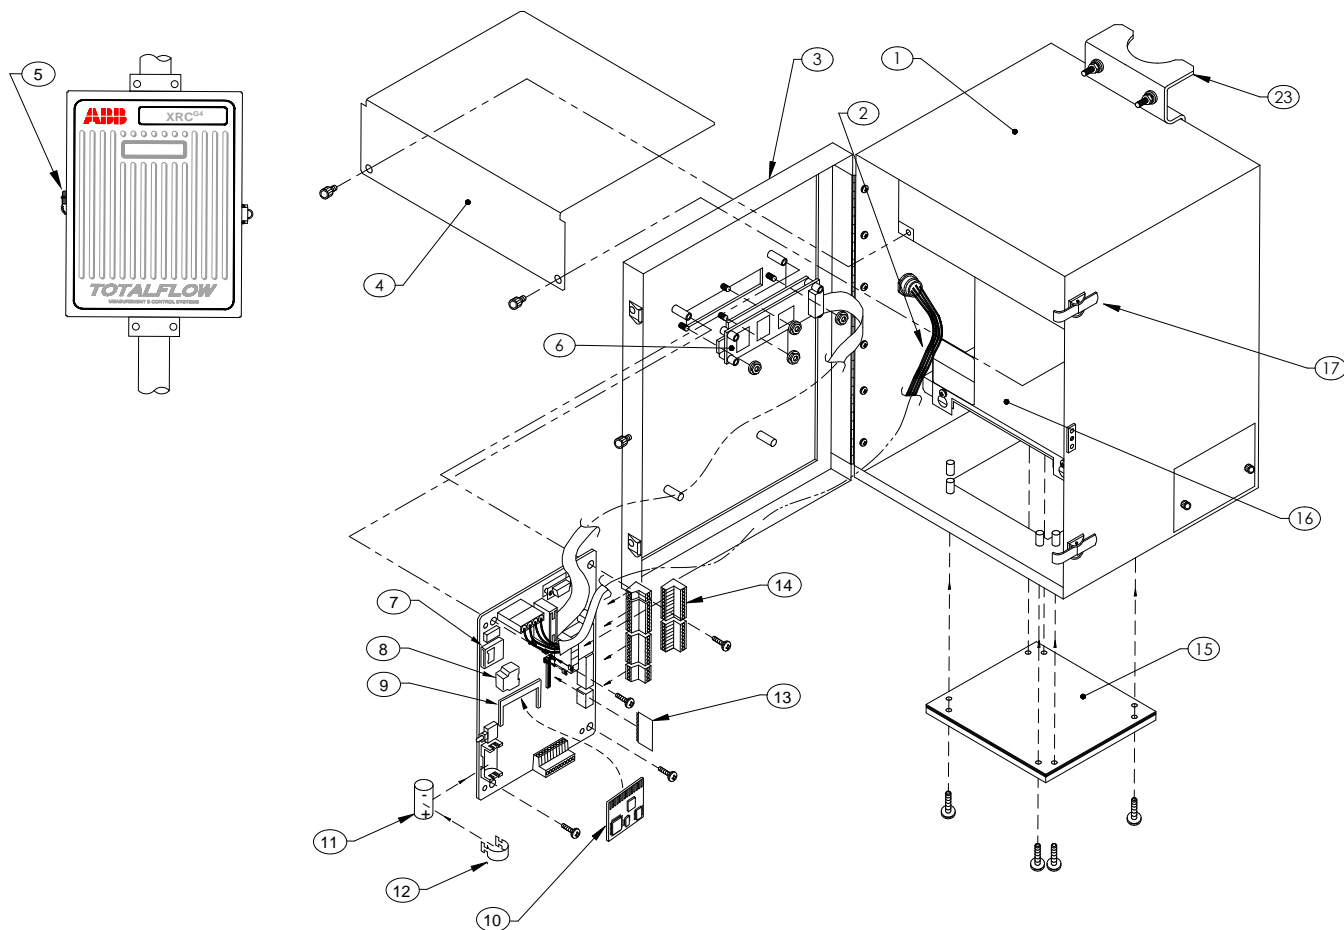
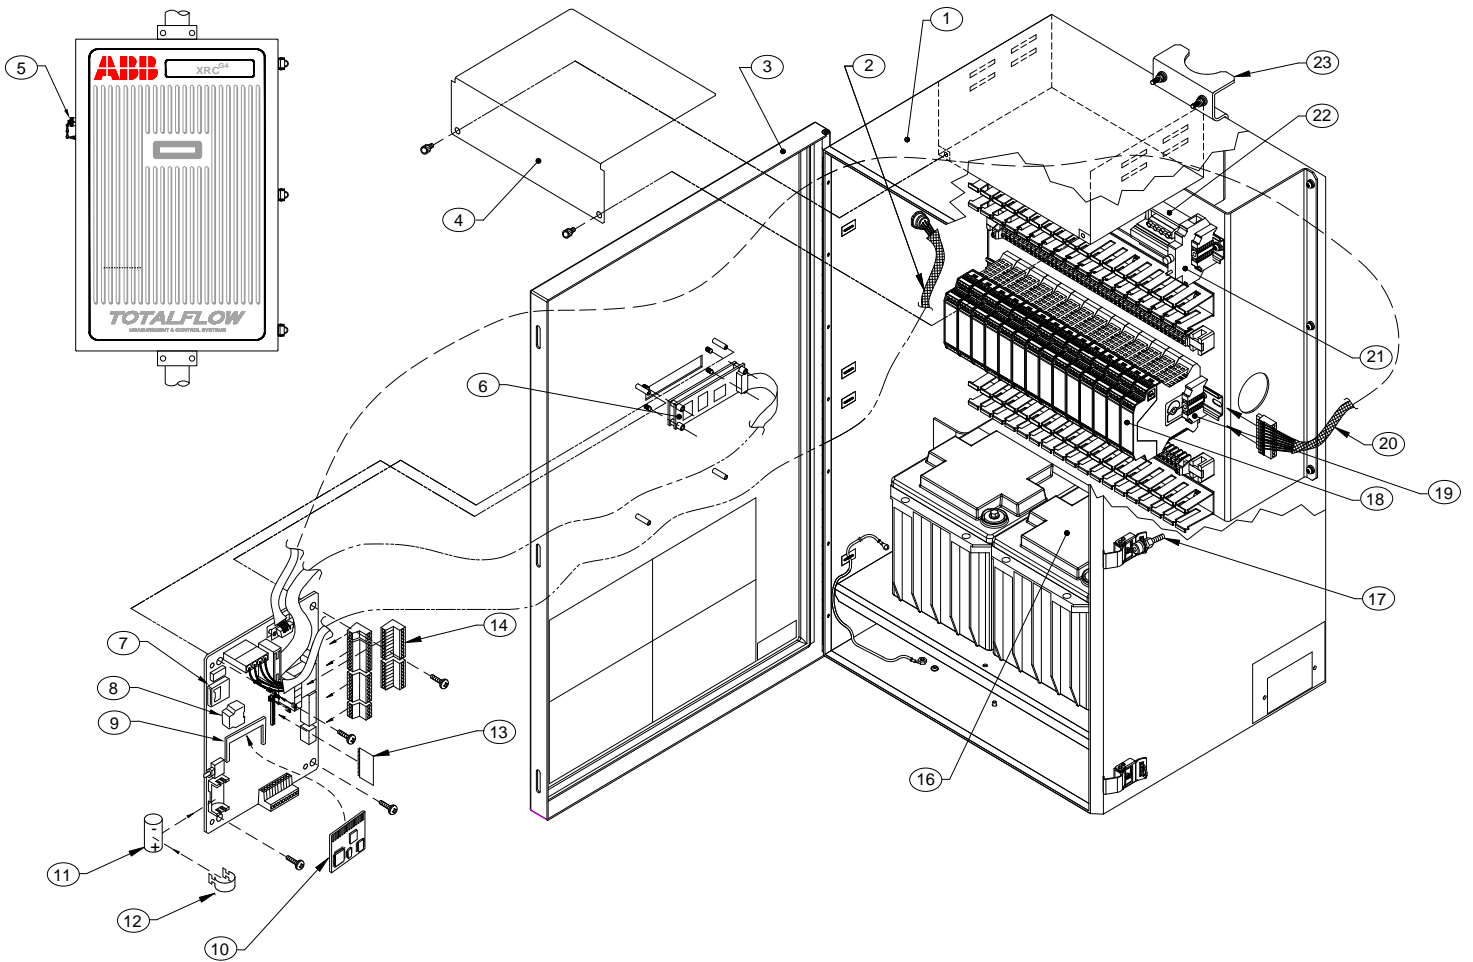

Figure 68: XRCG4 6490 component/cable locations
Figure 69: XRCG4 6890 component/cable locations
The XRCG4 components are identified in Figure 68 and Figure 69. Component details and Spare part list are available in Table 14 and Table 15 respectively.
3. Gain access to the Main Processor Board by unlatching the enclosure door (see Figure 68: *XRCG4 6490 component/cable locations* and Figure 69: *XRCG4 6890 component/cable locations*).
5. Remove the keeper plate (Figure 68: *XRCG4 6490 component/cable locations*, Item 16-6490 only) which secures the battery pack in its mounting location by slightly loosening the three mounting screws. It is not necessary to remove the screws.
The XRCG4 board is mounted to the backside of the access door. It is mounted to the door on standoffs. See Figure 68: *XRCG4 6490 component/cable locations* or Figure 69: *XRCG4 6890 component/cable locations*.